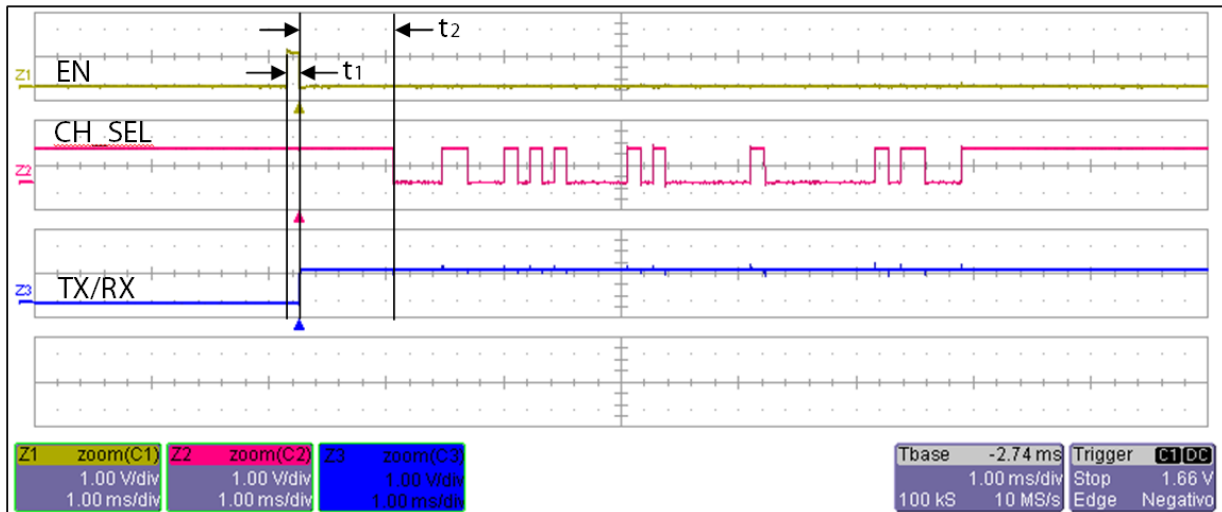

Figure 1: timings. $80\mu\text{s} < t_1 < 120\mu\text{s}$; $t_2 > 1\text{ms}$
- generate a high pulse t_1 with a duration within **80 μ s and 120 μ s** on **EN line** (see Figure 1).
The time t_2 between the end of the pulse on EN line and start of data transmission on CH_SEL must be at least **1 ms** (see Figure 1).